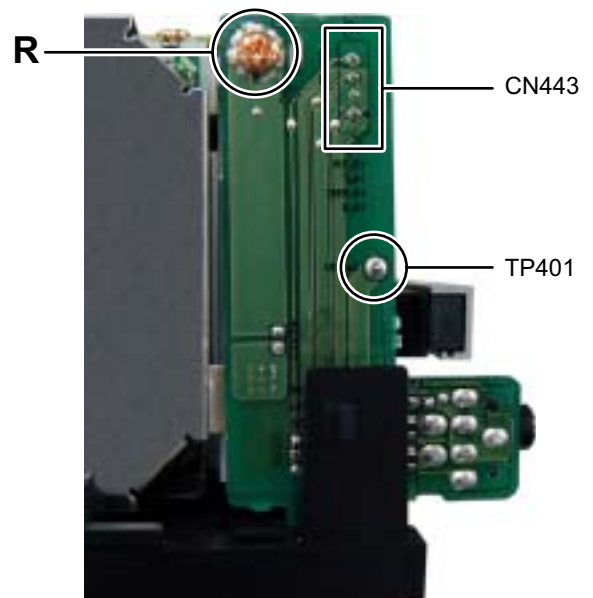

Fig.11
3.1.6 Removing the Headphone board (See Fig.11)